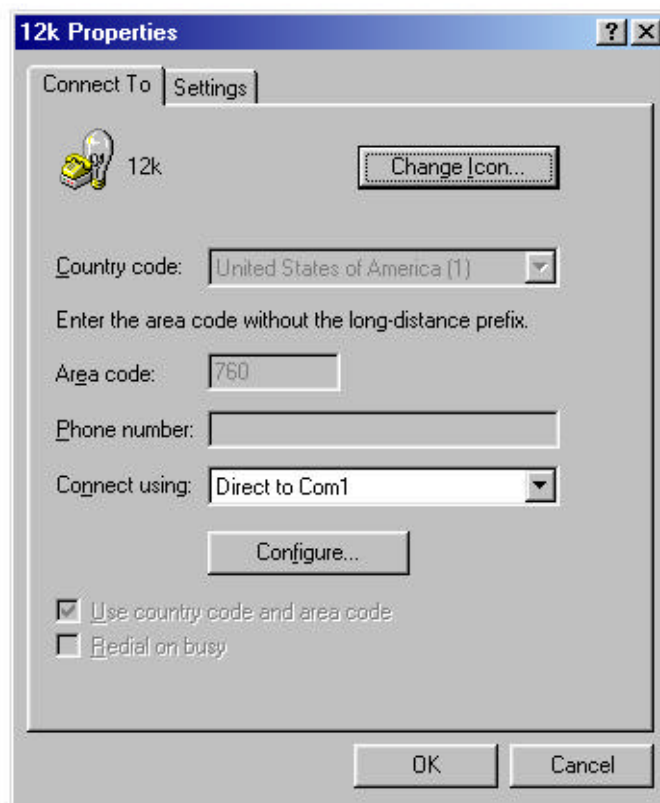

Figure 2-5 Properties dialog box.
4. Access the File Menu and Select PROPERTIES. This will bring up the Properties dialog box shown in Figure 2-5. Select the “Connect To” Tab.